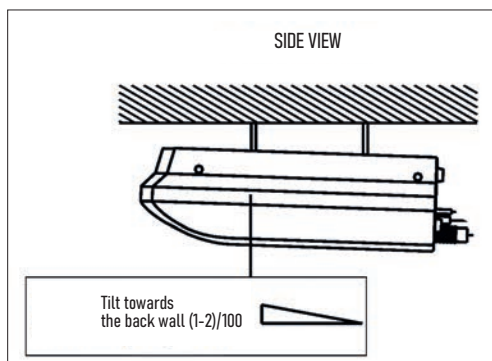

Fig. 4
**ATTENTION!** After installation the rear end of the unit should hang lower than the front end (see Fig. 4 of the Appendix). Otherwise the drainage water may exit from the air exhaust opening.